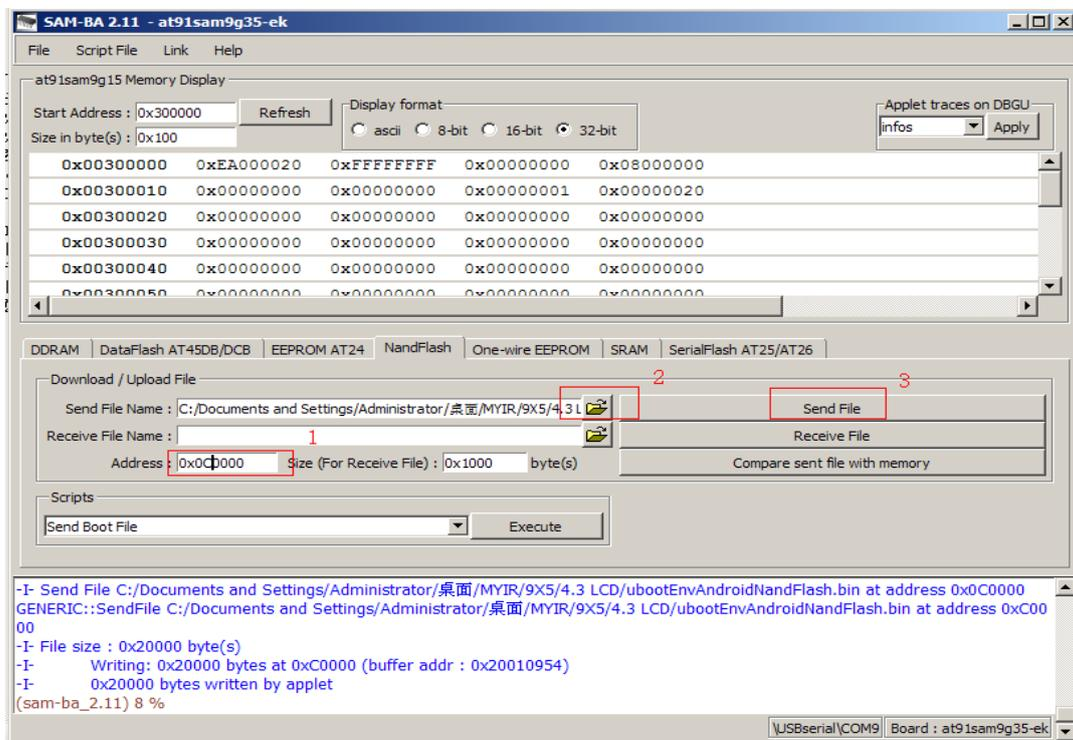

Figure 5-14
(7) Download ubootEnvAndroidNandFlash.bin to 0xc0000. Refer to figure 5-14: